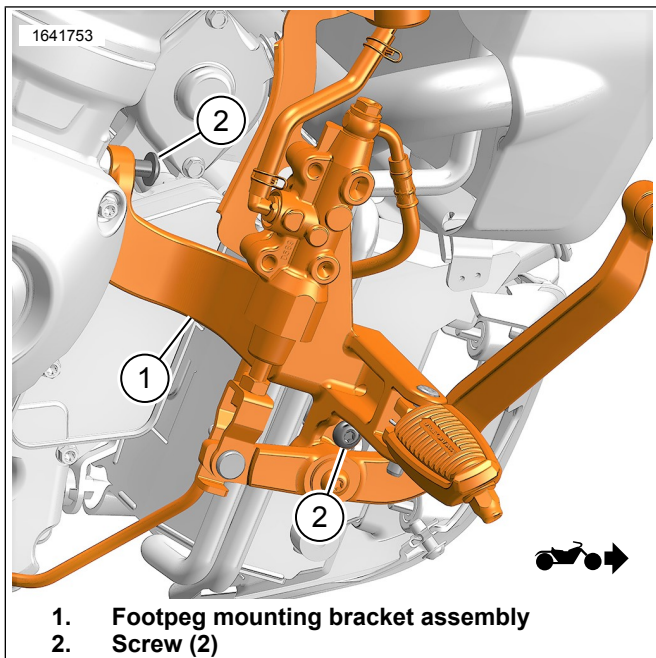

Figure 14. Install Assembly
5. See Figure 14. Install footpeg mounting bracket assembly (1) to vehicle.
- a. Install screws (2). Tighten.